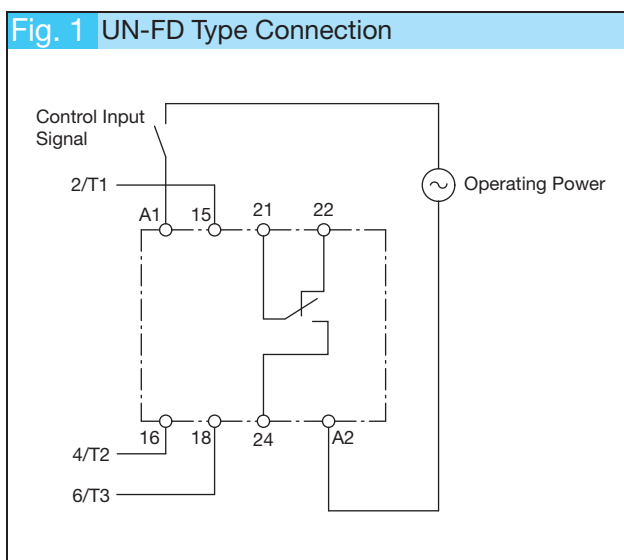

Fig. 2 Connecting UN-FD Types and No-Fuse Breakers (With Drive Unit)
- (1) Figures 2 to 5 indicate the main and control circuits when both use the same power supply. Use separate power supplies if the main circuit voltage and control circuit voltage are different.
- (2) When using thermal overload relays with motor loads, connect the break contact of the thermal overload relay in series with the contact signal.
- (3) For single-phase loads, use any 2 of the UN-FD terminals numbered 15, 16 or 18 to connect to the terminals of the load.